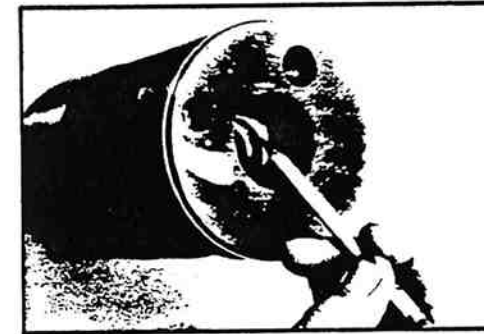

Figure 11-48. Location of Ball Track Grooves in Rack Piston.
1. Inspect rack piston (10) teeth for cracks and wear. If you can detect a step by running your fingernail edge horizontally across the teeth surface, replace the rack piston.
2. Inspect the rack piston ball track grooves (helical shaped) for brinelling (dents) or spalling (flakes) (figure 11-48). If either condition exists, the rack piston (10), valve sleeve (5b), sector